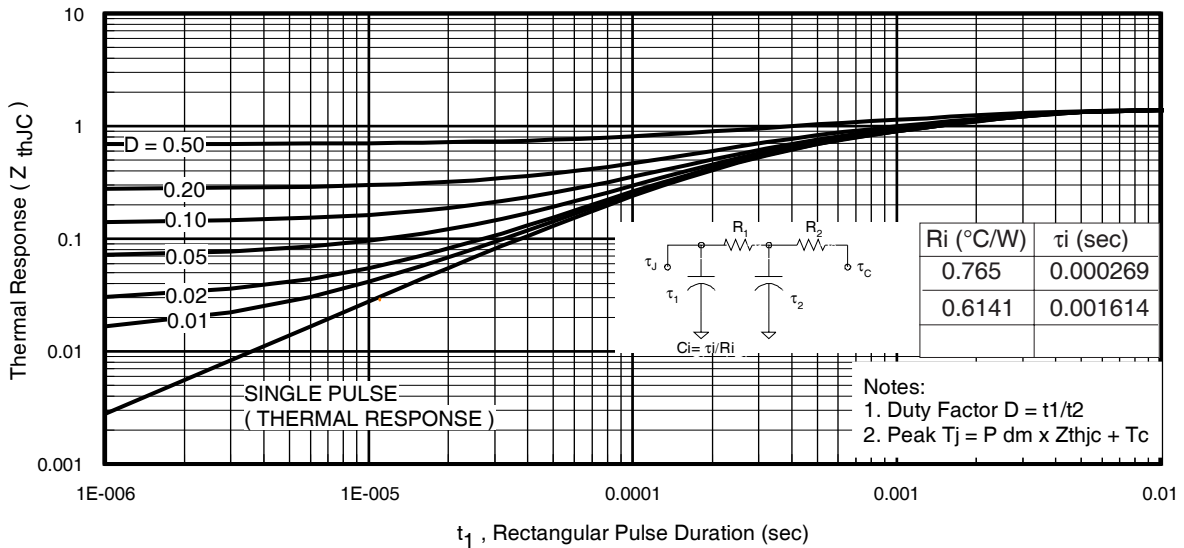

Fig 11. Maximum Effective Transient Thermal Impedance, Junction-to-Case
$Z_{thJC}(D, t_{av})$ = Transient thermal resistance, see figure 11)
- ① Repetitive rating; pulse width limited by max. junction temperature. (See fig. 11).
- ② Limited by T_{Jmax} ; starting $T_J = 25^\circ C$, $L = 0.089mH$, $R_G = 25\Omega$, $I_{AS} = 36A$, $V_{GS} = 10V$. Part not recommended for use above this value.
- ③ Pulse width $\leq 1.0ms$; duty cycle $\leq 2\%$.
- ④ C_{OSS} eff. is a fixed capacitance that gives the same charging time as C_{OSS} while V_{DS} is rising from 0 to 80% V_{DSS} .